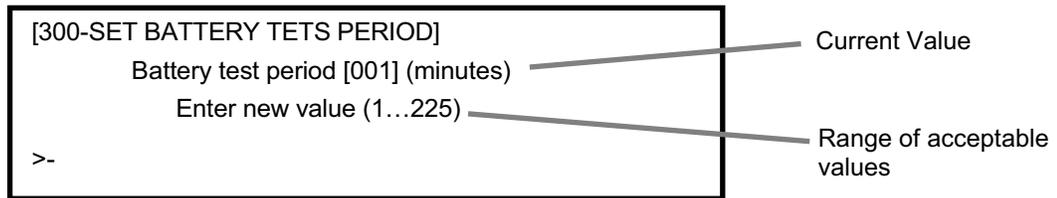

Figure 55
3. To change the battery test period, type **300** and press **Enter**. The words “Enter password” appear on the screen. Type the password (the factory set password is 1111) and press **Enter**. If the wrong password is typed, the screen displays “Error in entering data... please try again.” Type the correct password and press **Enter**. The Set Battery Test Period screen appears as below (Figure 55).